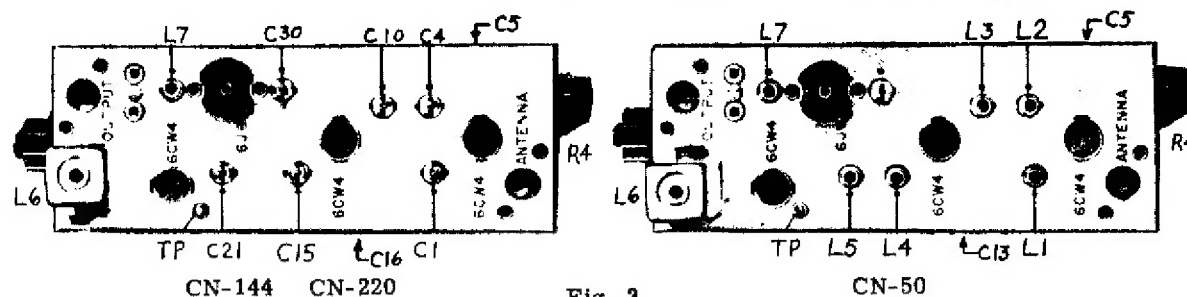

Fig. 3
1. Adjust the six piston trimmers on top of the CN-144 or CN-220 chassis so that 1/2" of the trimmer screw is exposed above the trimmer housing. Adjust the six hexagonal core slugs on the CN-50 and the single hexagonal core slug on the CN-144 and CN-220 so that the slugs are approximately centered in the coils. Connect the converter to your receiver and power supply. Connect VTVM from the test point TP to ground. See Fig. 3 for the location of this point. Adjust the VTVM to a low scale setting to read -DC volts. Wherever 6CW4 is mentioned, 6CW4 or 6DS4 can be used without changes or adjustments.